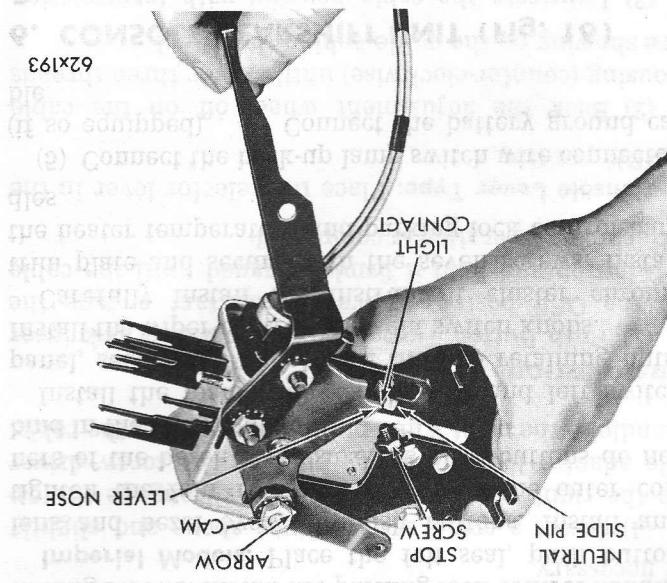

Fig. 14—Adjusting Lever Nose Contact at $\frac{1}{4}$ in. from Center Line.
(1) Remove the overcenter spring and back off the lever stop screw (Fig. 14). Make sure no binding exists in the outer slide bearing and bushing.